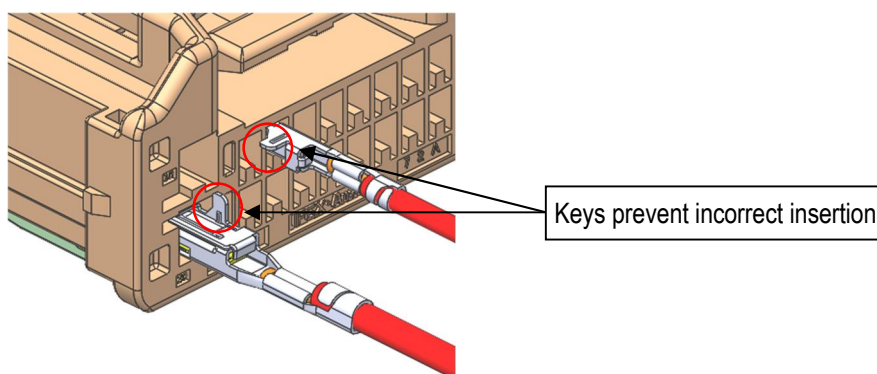

Fig26.Incorrect terminal insertion
- ① Terminals must be inserted in the orientation instructed. Forcibly inserting terminals in any other orientation may result in damage or deformation. Furthermore, if the terminals are inserted with incorrect orientation, terminal key prevents insertion into coreholes. (see Fig.26)
- ② Once the terminal is inserted, do not apply excessive pulling force to the wire.